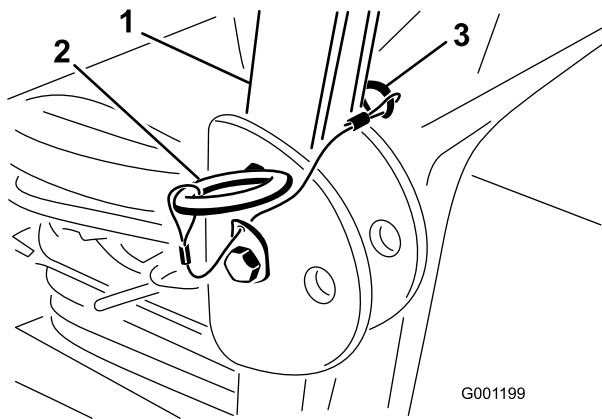

Figure 30
1. To lower the roll bar, remove the hairpin cotters, and remove the 2 pins (Figure 30).
3. Install the 2 pins and secure them with the hairpin cotters (Figure 30).
4. To raise the roll bar, remove the hairpin cotters, and remove the 2 pins (Figure 30).
5. Raise the roll bar to the upright position, install the 2 pins, and secure them with the hairpin cotters (Figure 30).